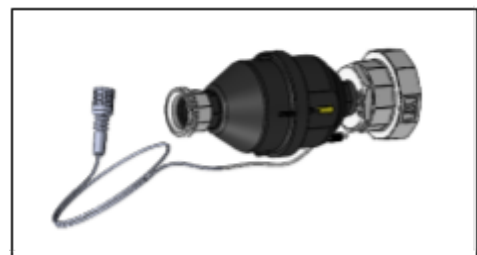

Figure 15.
- **Note:** Install the water meter with the counters facing up and the arrow pointing toward the mixing tank. See Figure 15.